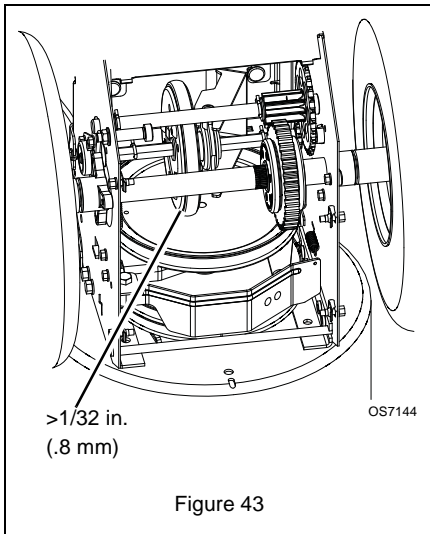

Figure 43
7. With the clutch disengaged, check that there is more than 1/32 in. (0.8 mm) clearance between friction disc and drive plate assembly (Figure 43).